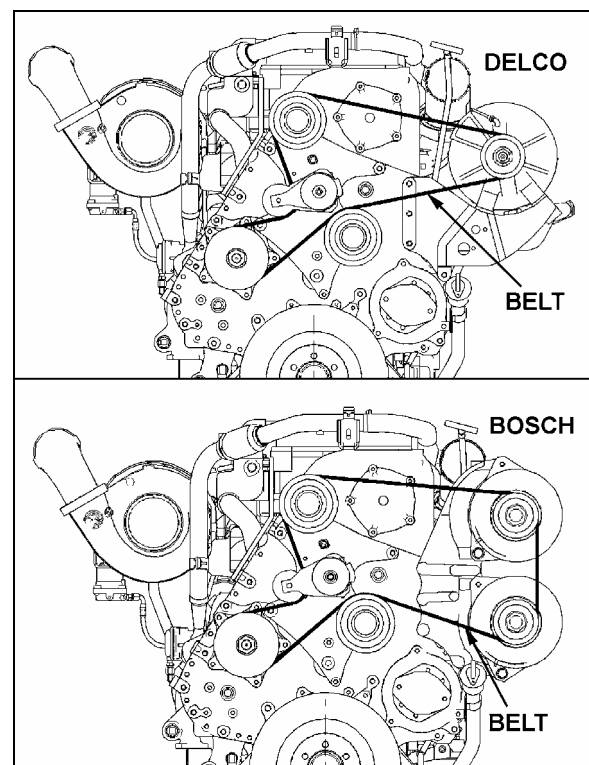

FIGURE 31: ALTERNATOR DRIVE BELT
1. Insert a $\frac{3}{4}$ " socket drive into the tensioning arm opening (Fig. 31).